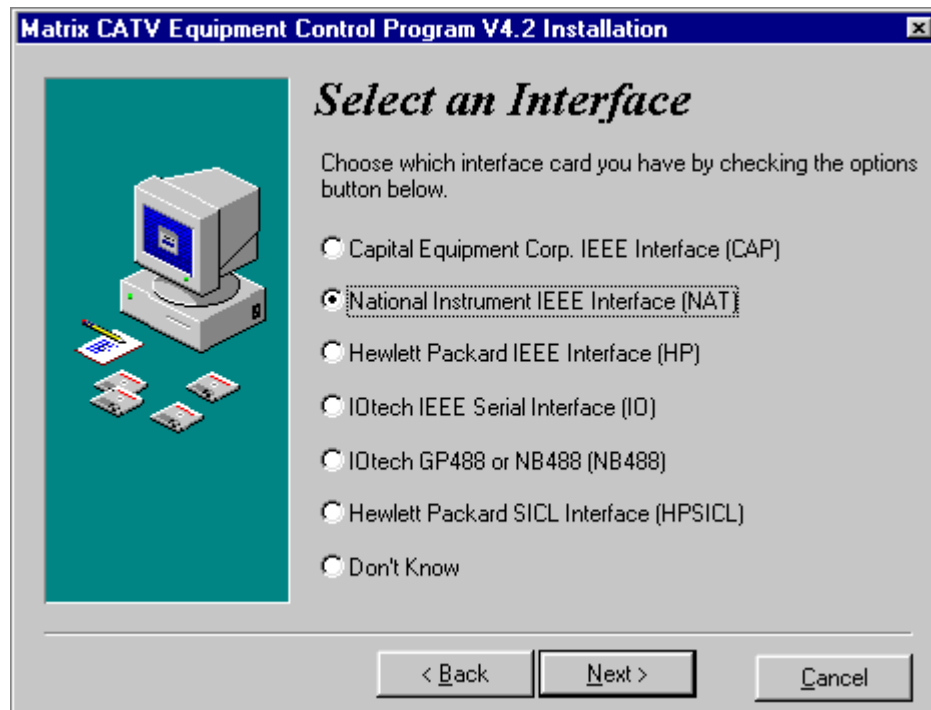

Fig. 2
- 4) You will see a menu to select an IEEE interface (See Fig. 2). This will provide the setup program with information to automatically set up your USER.INI file with the correct interface configuration, and to create a windows icon to the manual diagnostic software, if selected and available, for the communications interface you will be using . The default is the Capital Equipment Corp. interface. Select one of the GPIB interfaces supported by the software. If your interface does not appear here, then you may not be able to control the Matrix equipment with this software. If you don't know which interface you will be using, or if you are only installing for demonstration purposes, select “**Don't Know**”.